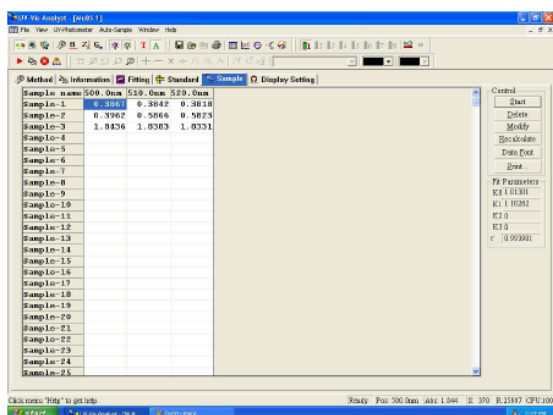

Fig. 4-5
18. Repeat steps 7-8 to measure all samples (Fig 4-5).